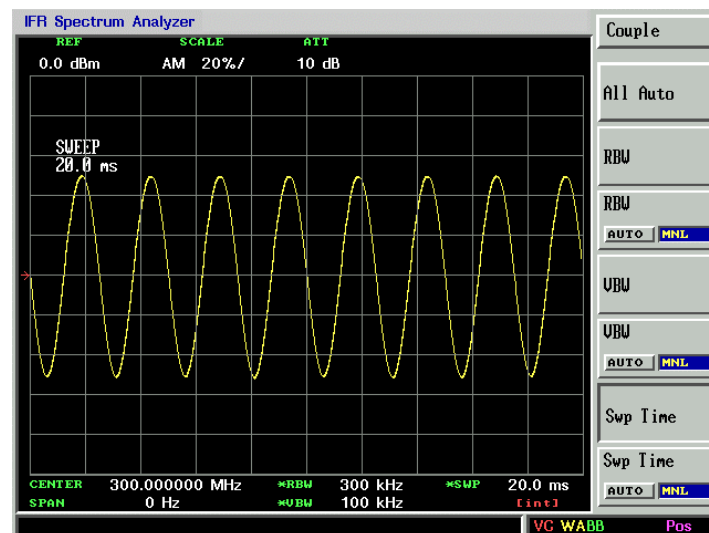

Figure 2-23. Measuring Modulation Using AM Demodulation Function.
5. To demodulate the AM, press **AUX**, **AM Demod. [ON]**. See Figure 2-23.